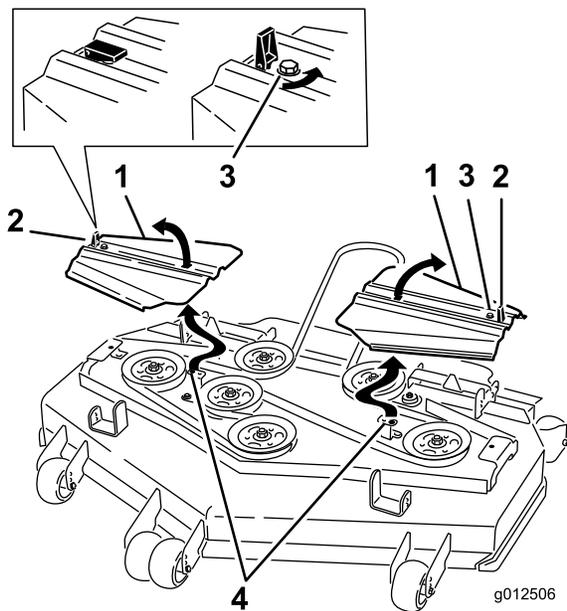

Figure 65
14. Install the belt covers with the tabs in the slots. Install the screws and close the latches (Figure 65).